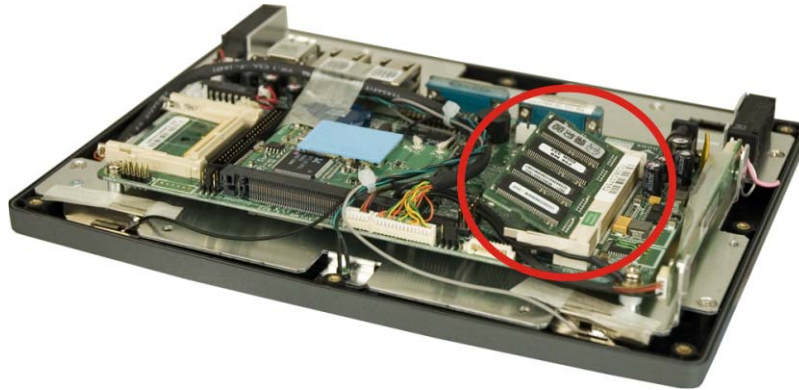

Figure 4-12: SO-DIMM Socket Location
Step 3: Locate the DDR memory module on the motherboard of the flat panel PC (Figure 4-12).